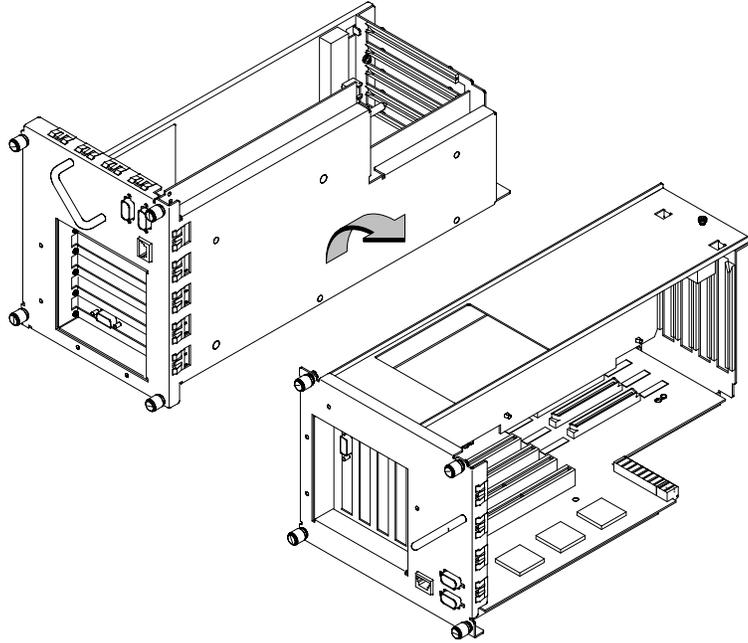

Figure B-34. Rotating the EISA Assembly for Installation
2. Rotate the unit 90 degrees clockwise and place on a flat surface, as shown in Figure B-34.